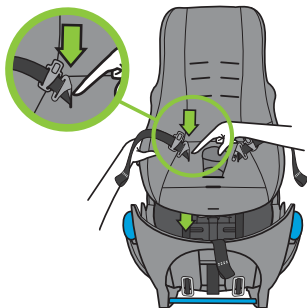

Figure 95
- Push Buckle Tongue down through hip strap opening in Carrier Cover and Inner Carrier Shell, as shown in **Figure 95**.